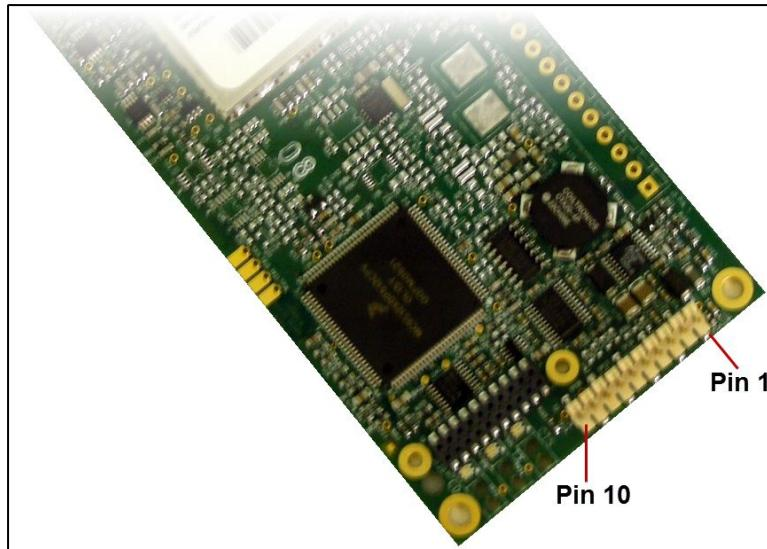

Figure 6: Pins 1 and 10
- Short pins 2 & 4 (Brown to Black) on the white 10 pin header next to the LEDs. Figure6 • If using a data cable, press the Setup button.